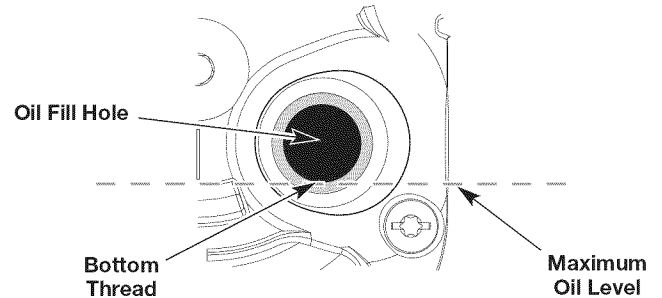

Fig. 18
5. Look into the oil fill hole; use a flashlight if necessary. **The oil level should just touch the bottom thread of the oil fill hole** (Fig. 18). If the oil level is too low, add oil to the oil fill hole until the oil level touches the bottom thread of the oil fill hole.